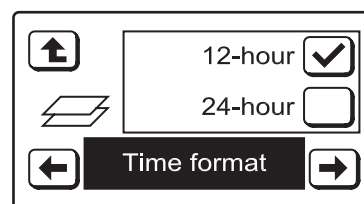

FIG. 73
6. Press the **RIGHT** (→) button to display the **Time format** screen (See Figure 73).